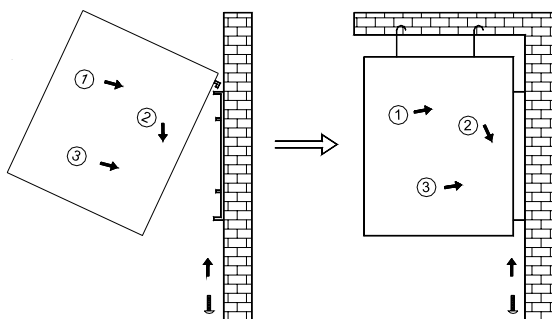

Figure 6. Air Curtain Installation on the mounting plate.
e) Install Air Curtain on the mounting plate according to Fig.6.